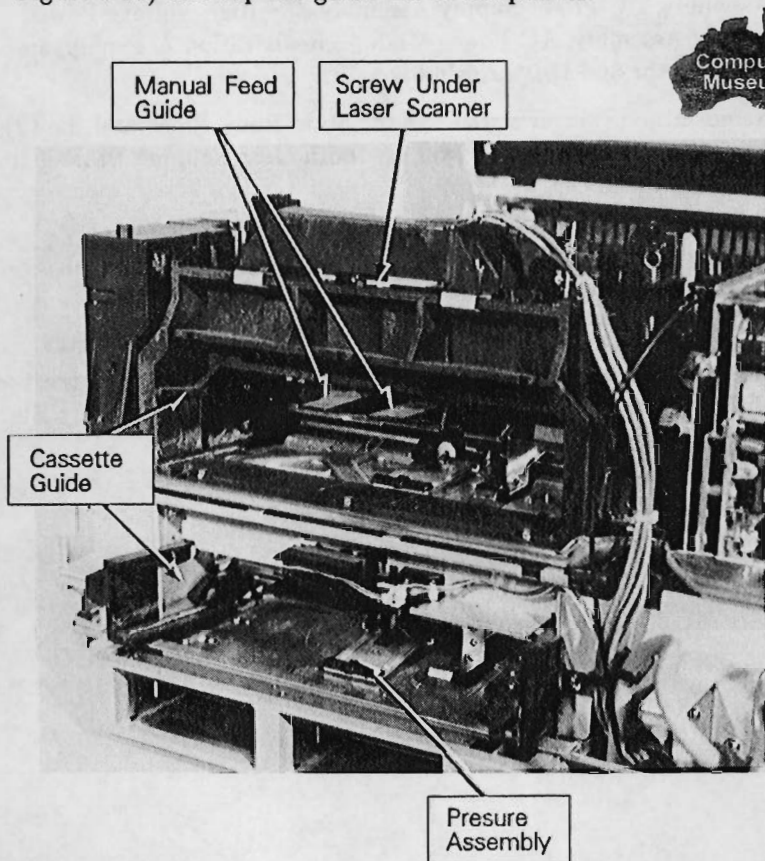

Figure 6-35. Manual Feed Guide and Pressure Assembly
3. Remove the (1) screw securing the Manual Feed Guide (see Figure 6-35) and slip the guide out of the printer.
The Pressure Assembly (see Figure 6-35) is attached to the bottom of the Main Body Assembly. To access it, everything in the top printer cavity *except* the hinges, Top Cover assembly, Feed Guide Assembly, and any components connected to the Main Body Block (plastic casting) must first be removed.